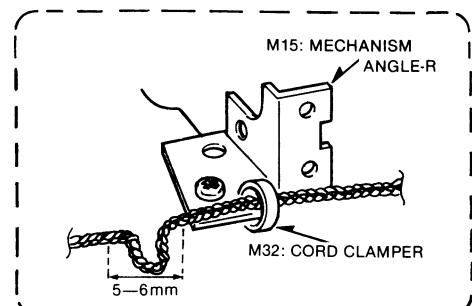

Fig. 2
3. Trace the record/playback head lead-wire as follows (Refer to Fig. 2.):